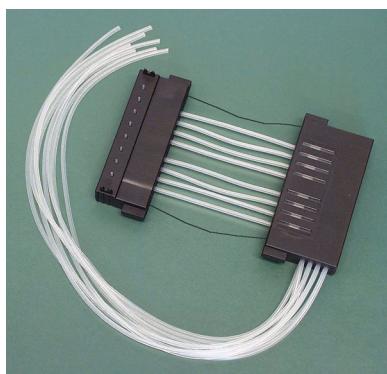

Figure 5-47. Dispensing cassette precalibrated
18. When the tube fasteners have all been adjusted roughly to the middle of the sight strip, close the calibration screw cover (Figure 5-47).